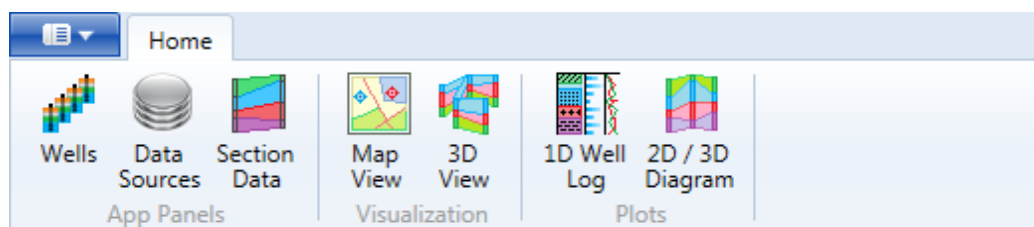

Fig. 3: Home – the most important ribbon toolbar tab of the application.
This interface is divided into four parts; the ribbon toolbar, application panels, ribbon main menu button and the documents area. Under the application main menu button you find basic functions to show (1) the user manual, (2) managing project files and (3) export of visualizations. The main features of the program for working with data are shown in the ribbon toolbar called **Home** (Fig. 3).